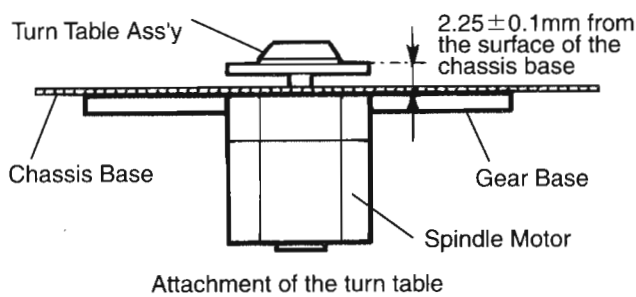

Fig.13
1. Figure 13 shows how to attach the turn table assembly to the spindle motor.